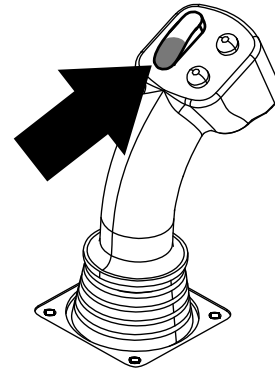
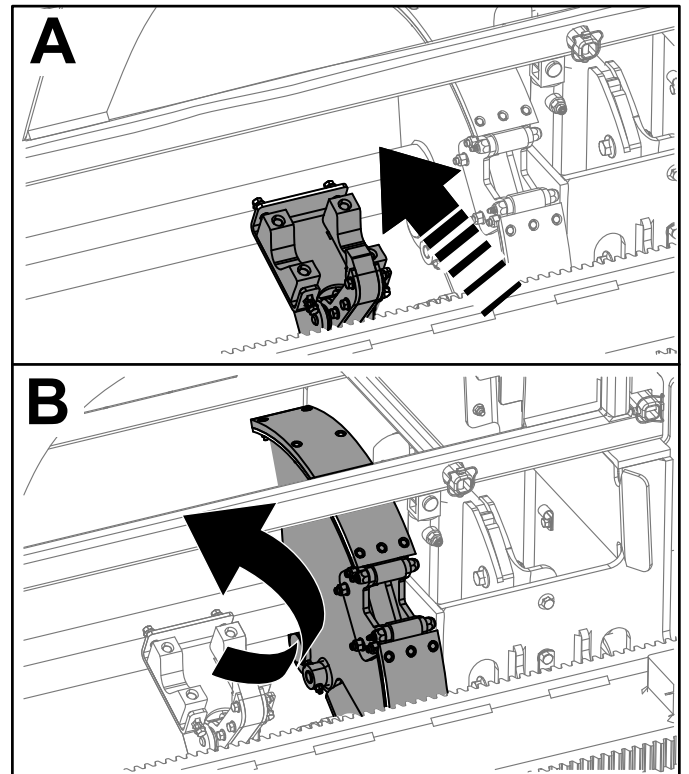

Figure 39
Figure 40
- Hold the lower section of the rocker switch (Figure 39) until the loader arms rotate back and the cam assembly returns to the home position (row 4) (Figure 40).